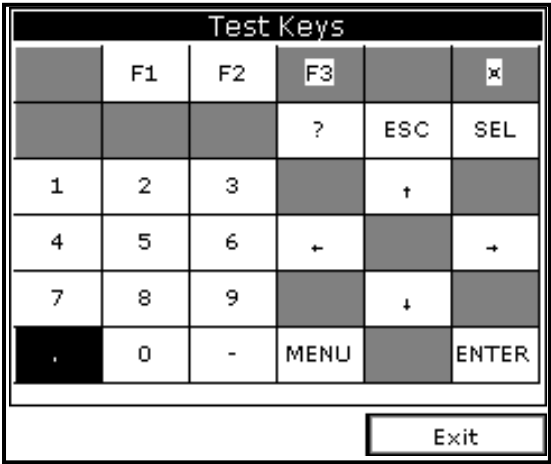

Figure 64: Test Keys Window
- 4. Use the arrow keys to scroll to Test Keys and press **[ENTER]**. The screen appears similar to *Figure 64*.